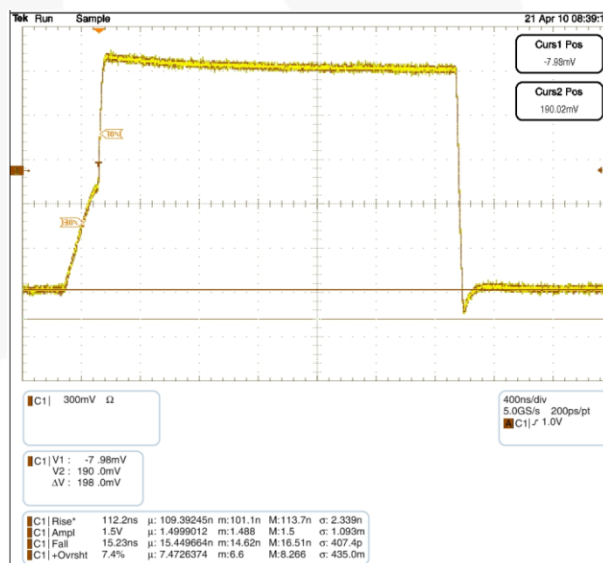

Figure 4. Waveform C: 600pF, Total R_{PU} : 2.2K Ω
between the ports until either of the port's $V_{CC}/2$ thresholds are reached. After the RC time constant has reached the $V_{CC}/2$ threshold of either port, the port's edge detector triggers both dynamic drivers to drive their respective ports in the LOW-to-HIGH (LH) direction, accelerating the rising edge. The resulting rise time resembles the scope shot in Figure 4. Effectively, two distinct slew rates appear in rise time. The first slew rate (slower) is the RC time constant of the bus. The second slew rate (much faster) is the dynamic driver accelerating the edge.
The FXMA2104 dynamic drivers have enough current-sourcing capability to drive a 400pF capacitive bus. This is beneficial when an I²C buffer / repeater is required. The I²C specification stipulates a maximum bus capacitance of 400pF. If an I²C segment exceeds 400pF, an I²C buffer / repeater is required to split the segment into two segments, each of which is less than 400pF. Figure 4 is a scope shot of an FXMA2104 driving a lumped load of 600pF. Notice the (30% - 70%) rise time is only 112ns (total $R_{PU} = 2.2K \cdot$). This is well below the maximum edge rate of 300ns. Not only does the FXMA2104 drive 400pF; it also provides excellent headroom below the I²C specification maximum edge rate of 300ns.